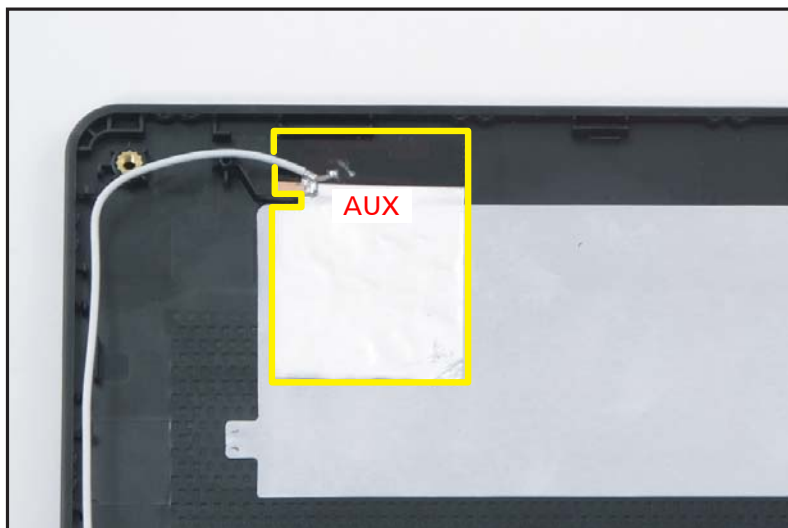

Figure 1-63. WLAN Antenna Removal
2. Gently peel off the AUX antenna and its grounding foil (Figure 1-63).
3. Remove the AUX antenna from the LCD cover (Figure 1-63).